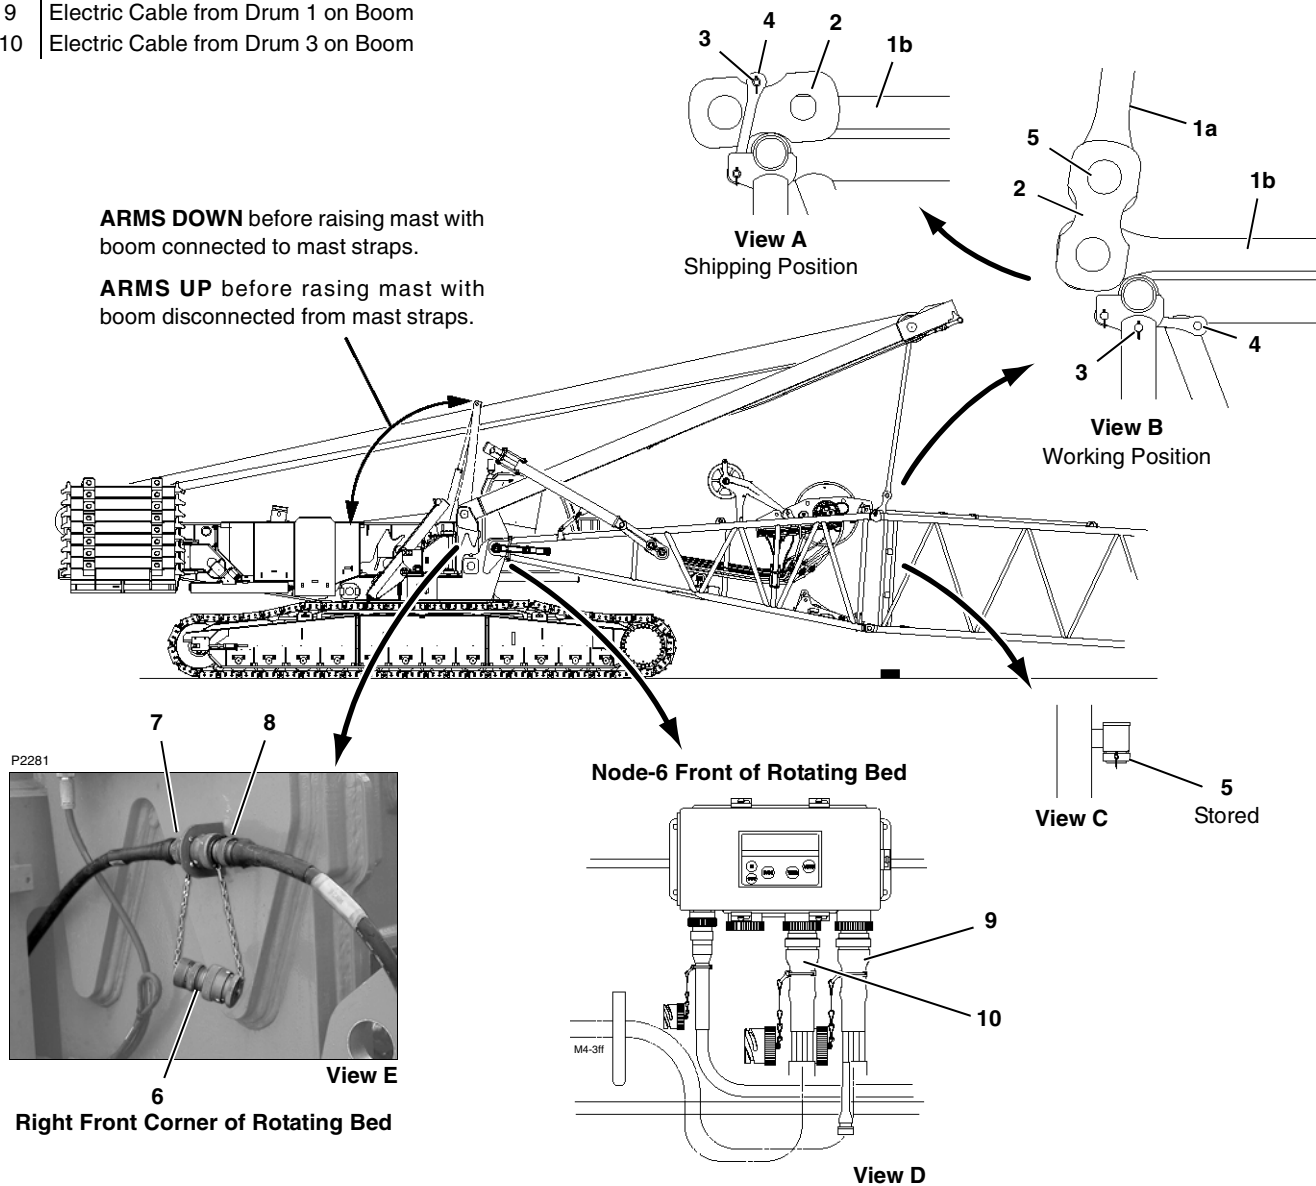

FIGURE 4-24
See Figure 4-24 for remaining steps.
- a. Disconnect electric cable (8, Figure 4-24, View E) (from boom) from electric cable (7) on crane.
- c. Connect sealing cap to electric cable (8) and store electric cable (8) on boom butt.
- d. Disconnect electric cables (9, Figure 4-24, View D) and (10 optional) from node on front of rotating bed.
2. Disconnect mast straps from boom (see Figure 4-24):
- b. Unpin links (2, View B) from mast straps (1a) and store links (2) and straps (1b) as shown in View A.
- c. Store pins (5) in pockets on insert (View C).